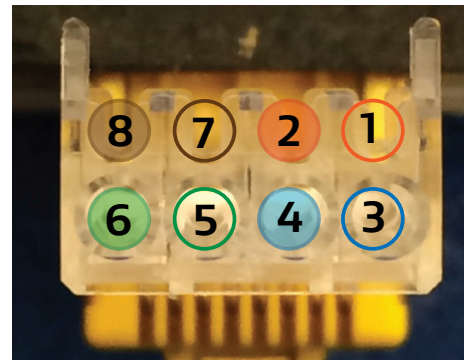

Figure 9: Wire positions inside connector
8. Starting with the bottom row, insert the wires into the connector according to the following diagram (Figures 9 – 10).